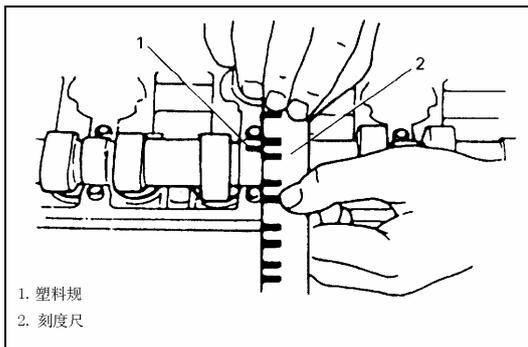

Fig. 4-157
(7) Disassembly camshaft bearing cover. see fig. 4-157, measure arc of staved plastic gauge flake at the widest position, obtain clearance value from graduation of plastic gauge as shown.